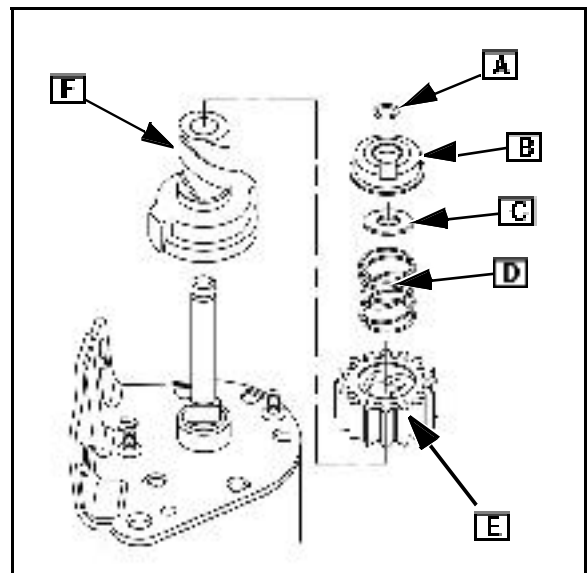

Fig. 42
- Remove retainer (B), washer (C), return spring (D), pinion gear (E), and starter clutch ([F] Fig. 42).
1. Inspect the pinion gear ([E] Fig. 42) for damaged teeth.
2. Correct any sticking between pinion gear and starter clutch (F) helix, Fig. 42.
4. The pinion gear (E), clutch (F), and C-ring ([A] Fig. 42) are available as separate service parts from your Briggs & Stratton source of supply.
1. Place starter clutch ([F] Fig. 42) on starter shaft. Turn clutch until it drops into place.
4. Install return spring (D) making sure spring is in recess of pinion gear.
5. Place washer (C) on starter clutch splines, and install retainer (B).
6. Place new C-ring ([A] Fig. 42) over chamfered end of shaft. Press C-ring on until it snaps into groove in shaft.